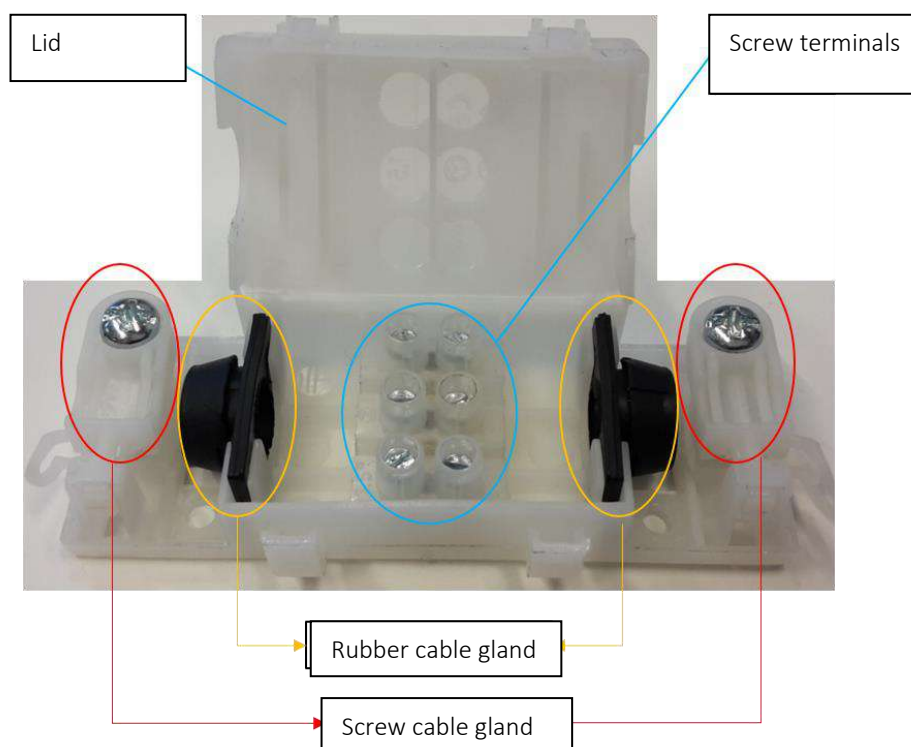

Fig. 41 Branching terminal board to connect the mains supply cables
- E. Take out the rubber cable glands from the branching terminal board (Figure 41): insert the supply cables from the projector into one cable gland and the external supply cables into the other.